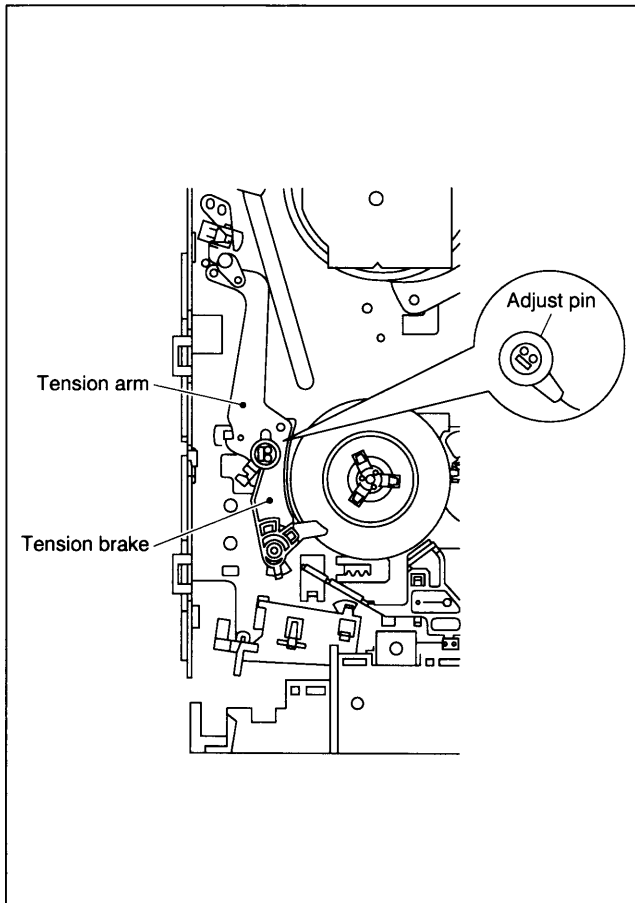

Fig. 2-4-8
- 2) While in the Play mode, turn the adjustment pin with a straight-slot screwdriver. (See Fig.2-4-8).